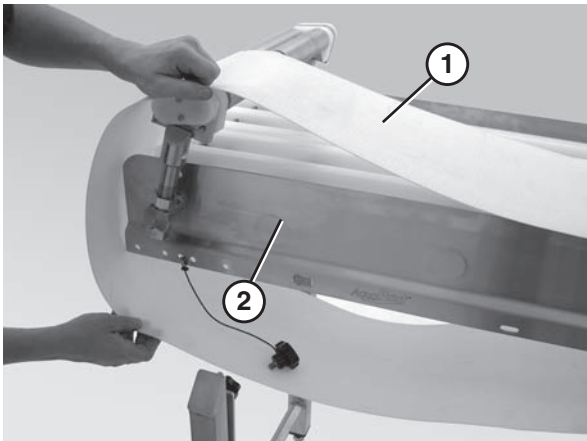

Figure 16
3. Slide the belt (**Figure 16, item 1**) on over the conveyor frame (**Figure 16, item 2**).